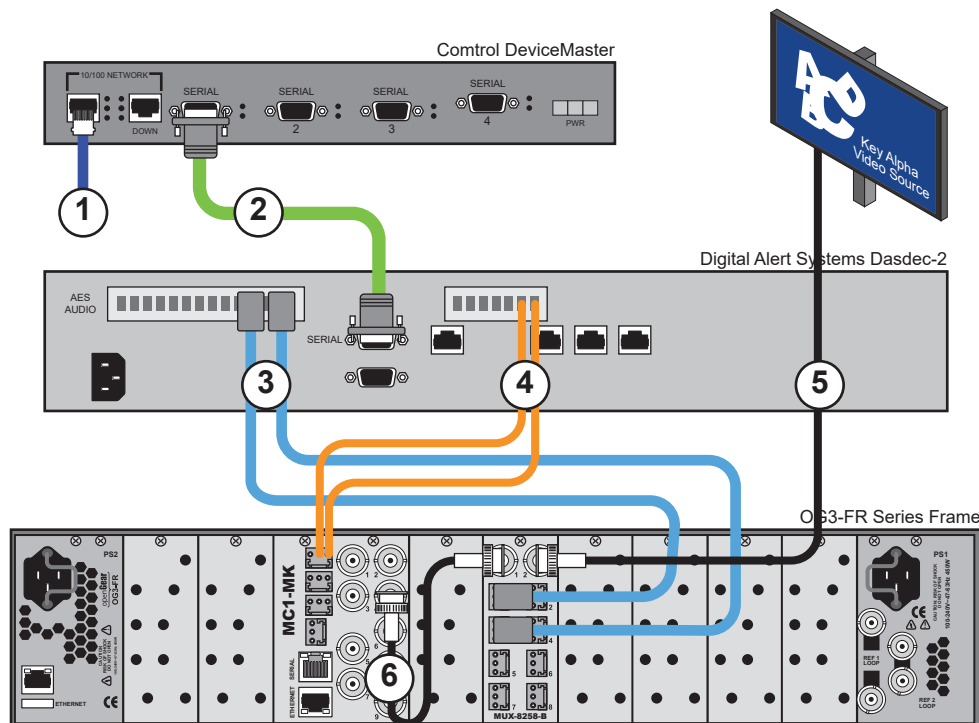

Figure 1 MC1-MK to Digital Alert Systems Dasdec-2 Example Cabling Setup
Figure 1 outlines the required physical connections.
3. Connect the audio output from the Digital Alert Systems Dasdec-2 to an audio port on the MUX-8258. Note that **Figure 1** shows an MUX-8258-C.